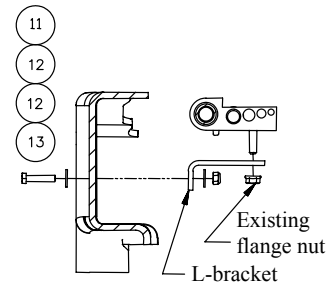

**Figure 2a**
2. **On Gas Engine Vehicles Only.** The vapor tube running along the inside of the driver's side frame rail must be relocated prior to installing the driver's side bracket. See Figure 2a. Remove the flange nut from the outside of the frame and keep for later use. See Figure 2b. Rotate the tubes up and out of the way. Install the L-bracket with 1/4" hardware, as shown in Figure 2c. Tighten the L-bracket to the frame, but leave the tube holder loose to aid bracket installation. The tube holder will be tightened onto the L-bracket in Step 12.